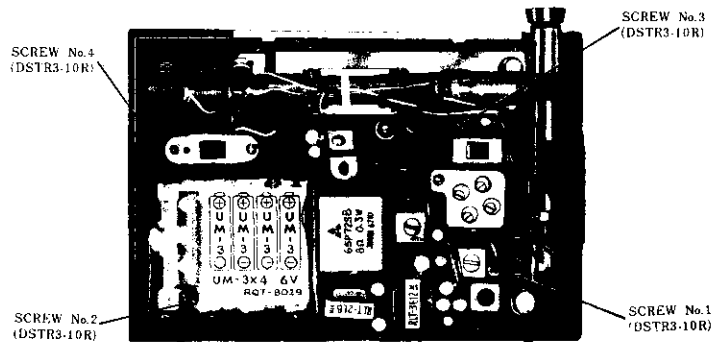

Fig. 2 Top View - Disassembly Points.
To Remove Chassis (Refer to Fig. 2)
2. Remove red chassis mounting screws, Nos. 1~4, as illustrated in Fig. 2.